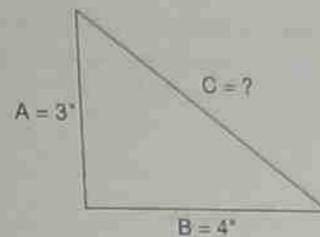
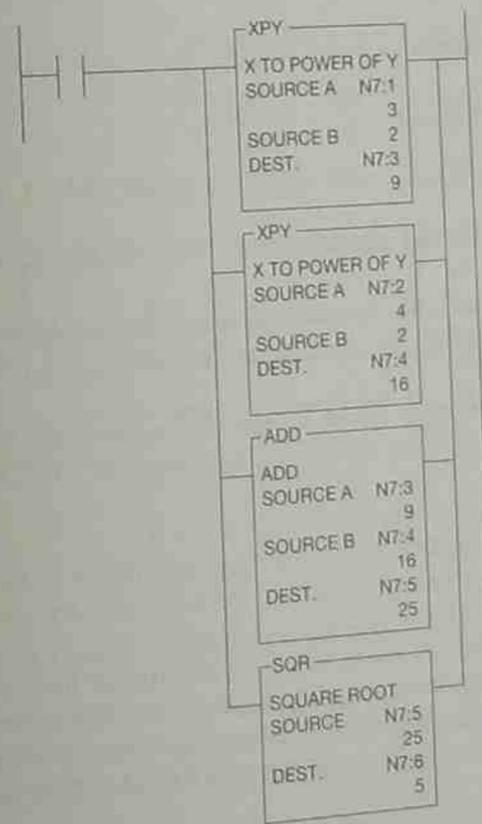

Figure 15-14 Solving the Hypotenuse of a Right Triangle Using the Pythagorean Theorem
Figure 15-15a Combining Math Instructions
An example of using more than one math instruction can be illustrated using the Pythagorean theorem which is used to find the hypotenuse of a right triangle. The theorem states that $C^2 = A^2 + B^2$. This formula, or theorem, can be transposed and rewritten $C = \sqrt{a^2 + b^2}$. Figure 15-14 shows a right triangle. Side A is 3" and side B is 4". Side C, the hypotenuse, has no measurement and is the unknown the theorem will solve.
Figure 15-15a shows how two XPY instructions, an ADD instruction, and an SQR instruction are used to find the dimension for side C of the right triangle shown in Figure 15-14. When the rung is true, the value in Source A (which is 3 from side A of the right triangle) of the first XPY instruction is increased by a factor of 2 (3^2) and stores the value of 9 in word 3 of file N7. The next XPY instruction takes the dimension of side B, which is 4, and factors it by 2 (4^2), then stores the answer (16) in word 4 of file N7. The ADD instruction now takes the values in source A and B and adds them together to get the answer of 25, as shown in word 5 of file N7. The last instruction, SQR, finds the square root of the value that is stored in word 5 of file N7. The value is 25, and the square root of 25 is 5. And, as we all remember from our high-school geometry class, if side A is equal to 3, and side B is equal to 4, then side C must be equal to 5. This is often referred to as a 3, 4, 5 triangle.